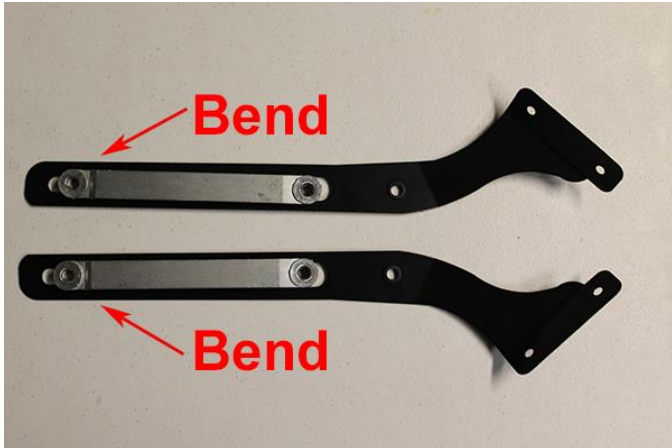

Fig 2
3. Insert the fender mounting band in the slots of the tag mount (Fig 2). Note that the fender mounting bands have a bend in one end. The bend goes toward the front of the bike. Failure to install the fender mounting band in the proper direction could result in cross-threading of the OE bolts.